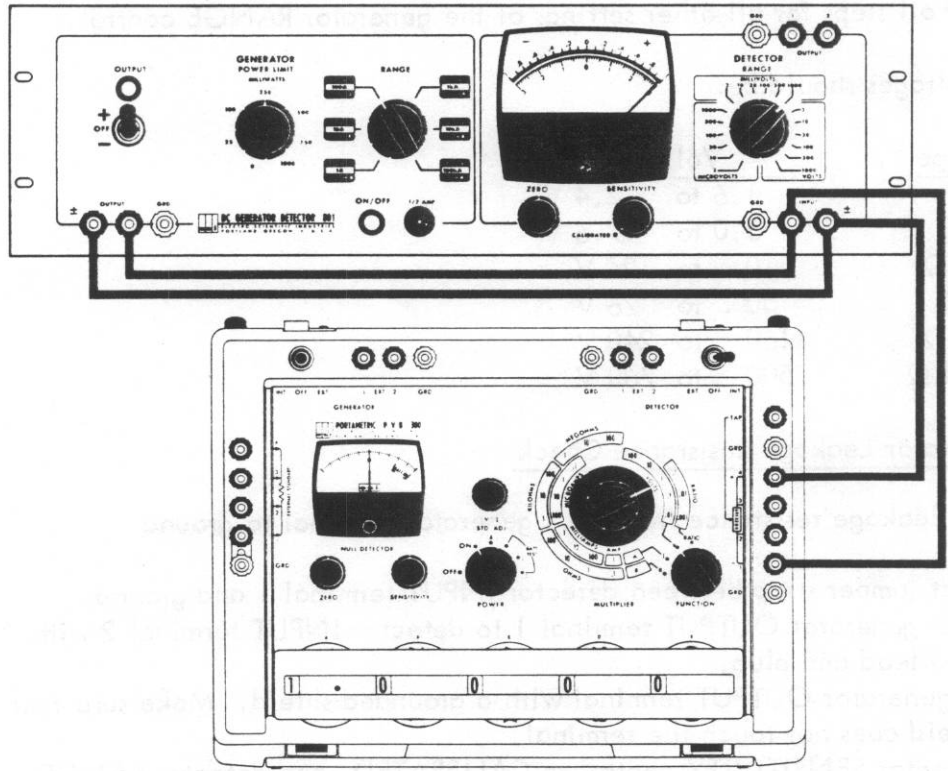

Figure 4.1b Detector Accuracy Test
- d) Connect a wire from generator OUTPUT terminal 1 to detector INPUT terminal 2, and a wire from generator OUTPUT terminal 2 to detector INPUT terminal 1. See Figure 4.1b.